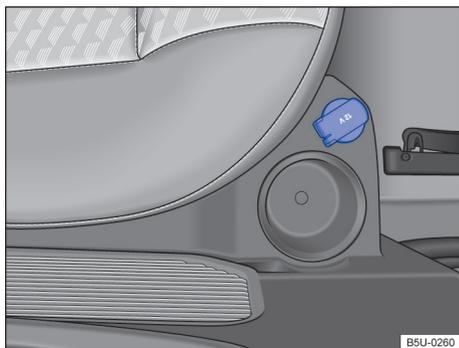

Fig. 107 On the side of the rear seat: 12-volt socket - New Saveiro with extended cab.
- On the stowage compartment on the right-hand side of the rear seat → Fig. 107.